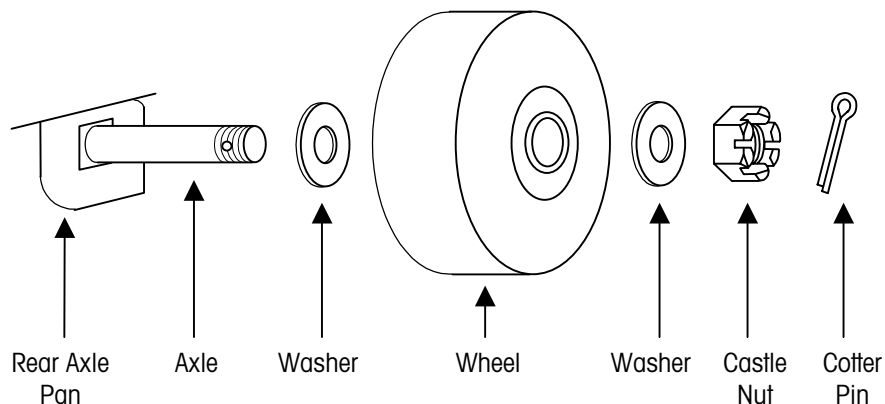

Figure 2-5: Installing Wheel on Axle
8. Slide a wheel (with a washer on each side of it) over the end of each axle. Then place a castle nut over the end of the axle. Secure the nut, washers, and wheel by installing a cotter pin through the hole at the end of the axle (see Figure 2-5).